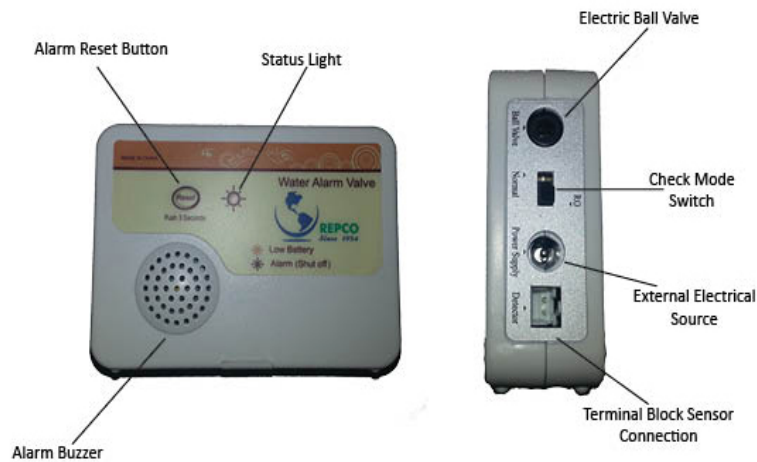

Figure 5 – Water Alarm Valve
- Please choose the correct mode on the mode switch shown in the picture according to the application. In the case of the Bubble-Up® Interactive™, the switch should be in the normal water position. See figure 5